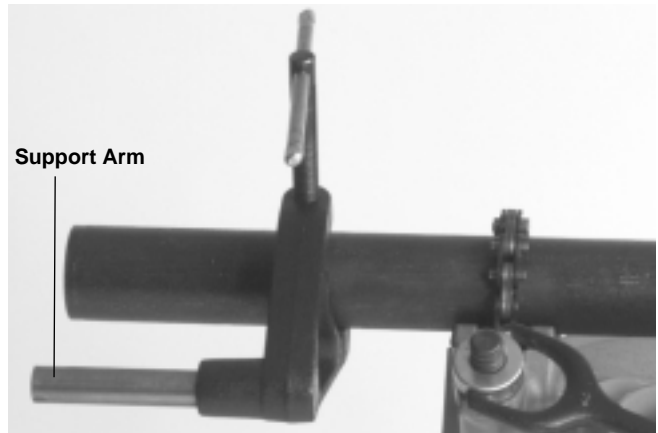

Figure 4 – Using No. 691 Support Arm When Threading ¾" Pipe and Larger
4. Position No. 691 Support Arm on pipe so end of support arm is in line with end of the pipe (Figures 4 & 5). Make sure jaws squarely contact pipe and tighten handle firmly to prevent slipping of the jaws.